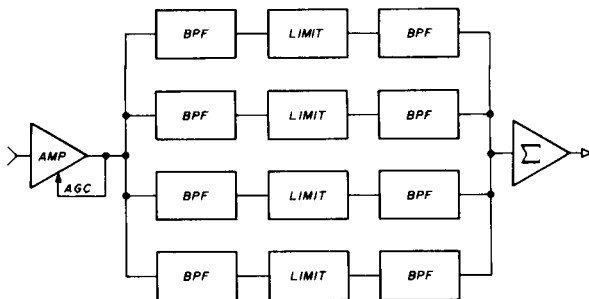

fig. 1. Block diagram of a split-band audio speech processor.
**Fig. 1** is a simplified block diagram of the split band clipper. The input signal is applied to an agc-controlled preamplifier which then drives the first set of bandpass filters (BPFs). The filters split the audio spectrum into four narrow bands which are then clipped and directed into the second set of BPFs, where the harmonics generated by the clipping process are filtered off. These filtered signals then go to the combiner stage where they are reassembled into the desired output.